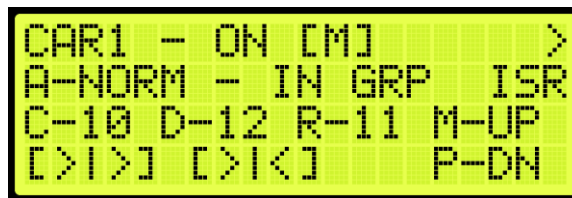

Figure 362: Car Data Overview Status
2. From the Car Data Overview Status (See Figure 362), press the right button.